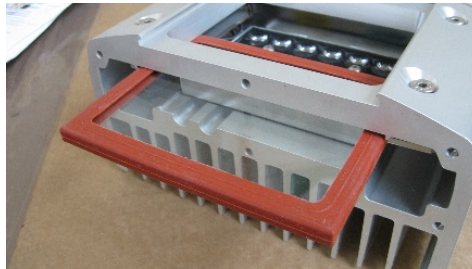

Fig: 5
- vi) Connect the new cable to the head connector block; No.1 to Red, No.2 to Black, see fig 5 and re install the LED board, lens clamp plate and bottom plate as per the instructions above.